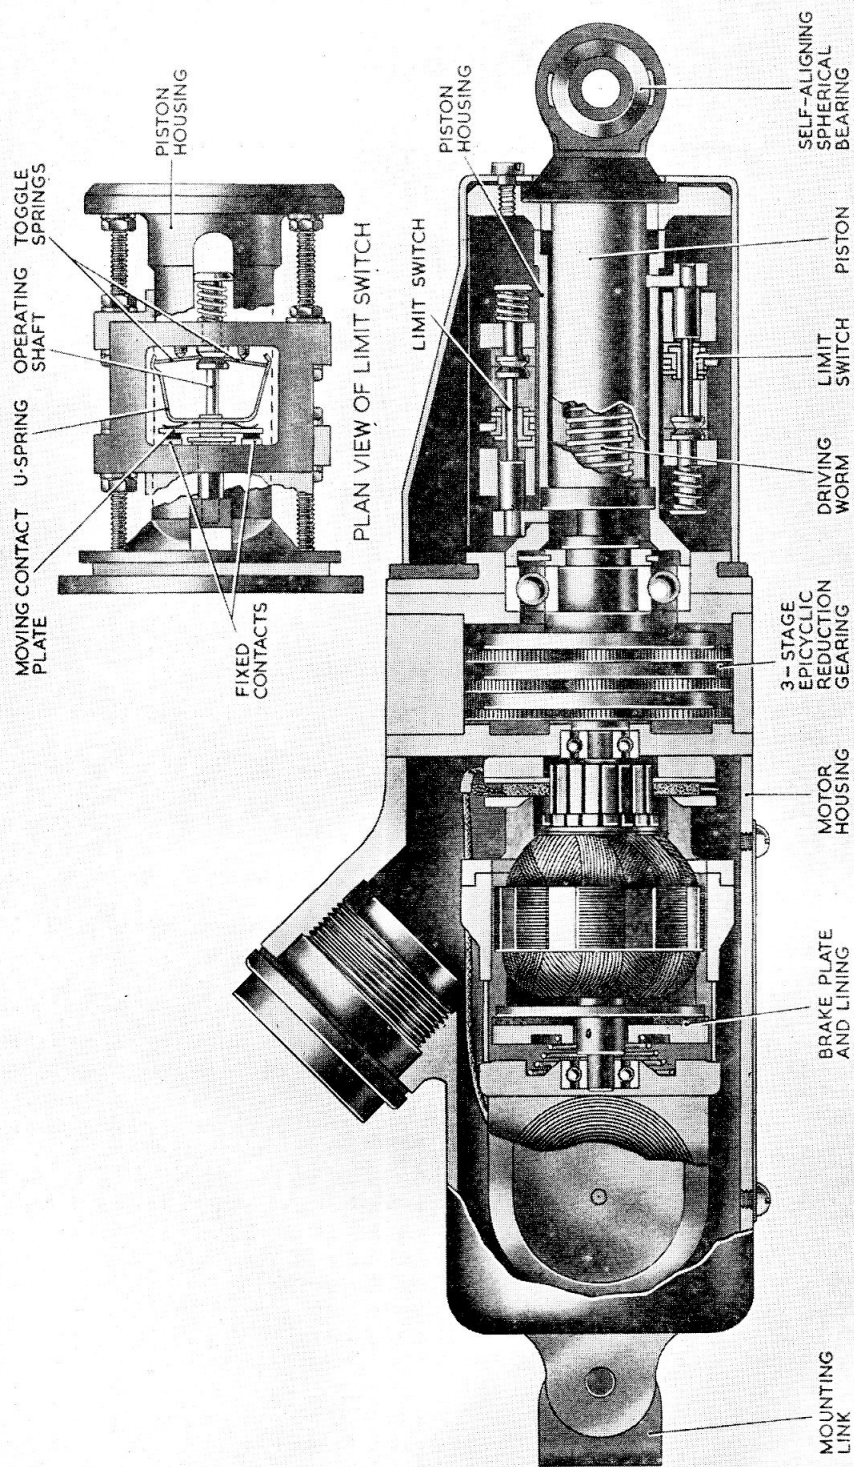

Fig. 1. Sectional view of actuator, Western, Type EJ25, Mk. 4
4. The brake (*fig. 1*) consists of a spring loaded brake plate with a friction lining on one face. The lined face is adjacent to the face of the brake disc which is fixed to the motor armature shaft. The brake plate can move only in a longitudinal direction, and the brake disc rotates with the motor. Operation of the brake is controlled by the motor field coils so that when the coils are energized, the brake plate is held off the brake disc, and when the coils are de-energized the brake plate makes contact with the brake disc and prevents the motor over-running when the current is switched off.